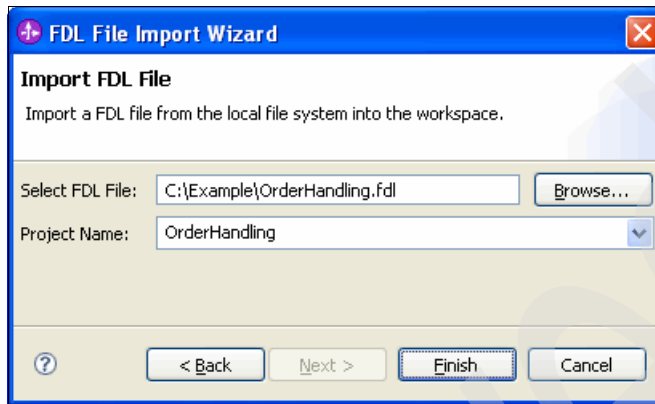

Figure 8-45 Selecting the .fdl file and setting the project name
3. In the FDL File Import Wizard window (Figure 8-45), for Select FDL File, click **Browse...** and locate the **OrderHandling.fdl** file. For Project name, select **OrderHandling**. Click **Finish**.